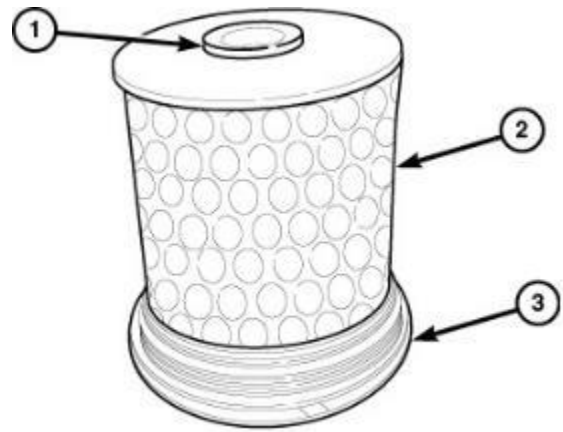

Figure 61 – Filter Seal
106. Position and push down on **NEW** fuel filters (2) to install filter onto the cover (3) (Figure 61).
107. Lubricate the rubber seal (1) with clean diesel fluid (Figure 61).